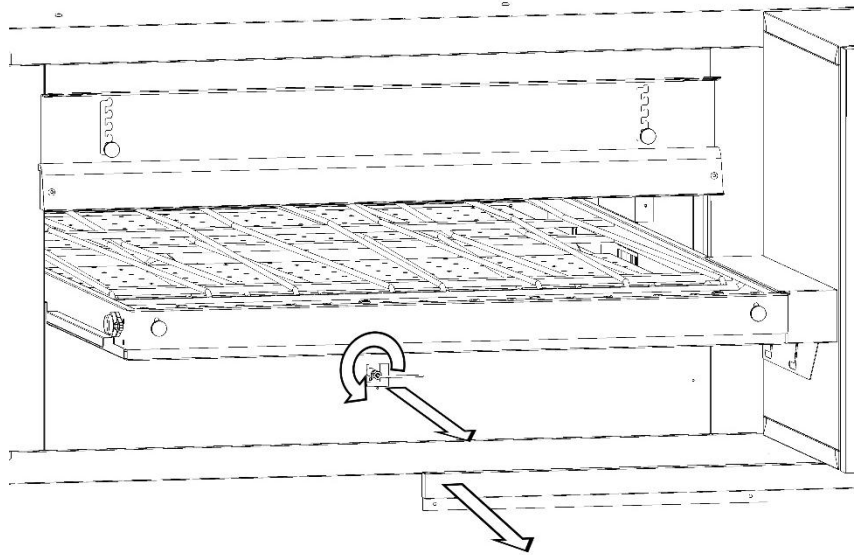

Fig.11B
- 4.Remove the protecting carter of the probe (Fig.11B).
- 4.Using a wrench 12 loosen the mounting nut of the support and remove the probe (Fig.11B).